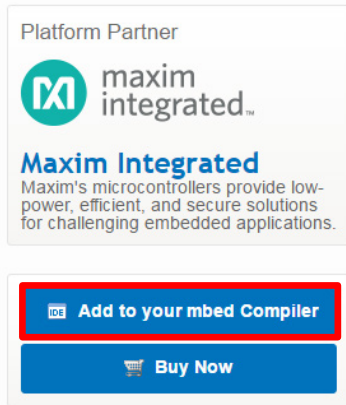

Figure 6. "Add to your mbed Compiler" button.
1. Add the MAX32600MBED platform to your compiler by clicking the **Add to your mbed Compiler** button at the top right side of the MAX32600MBED platform page (Figure 6).